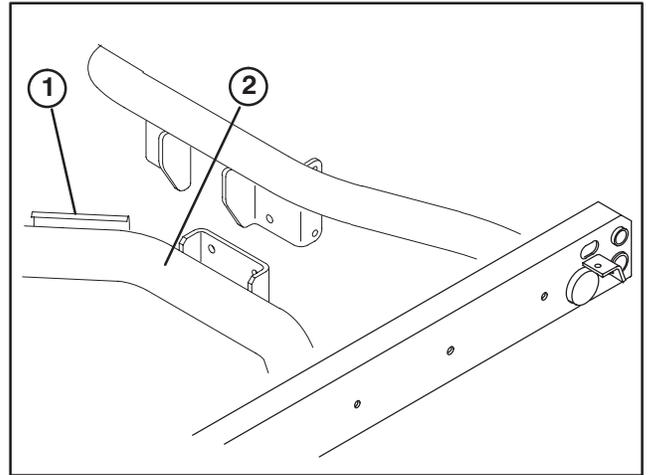

Figure 24
47. Apply warning decal to rear axle tube next to existing decal, just above and to the right of hitch point (Fig. 24).